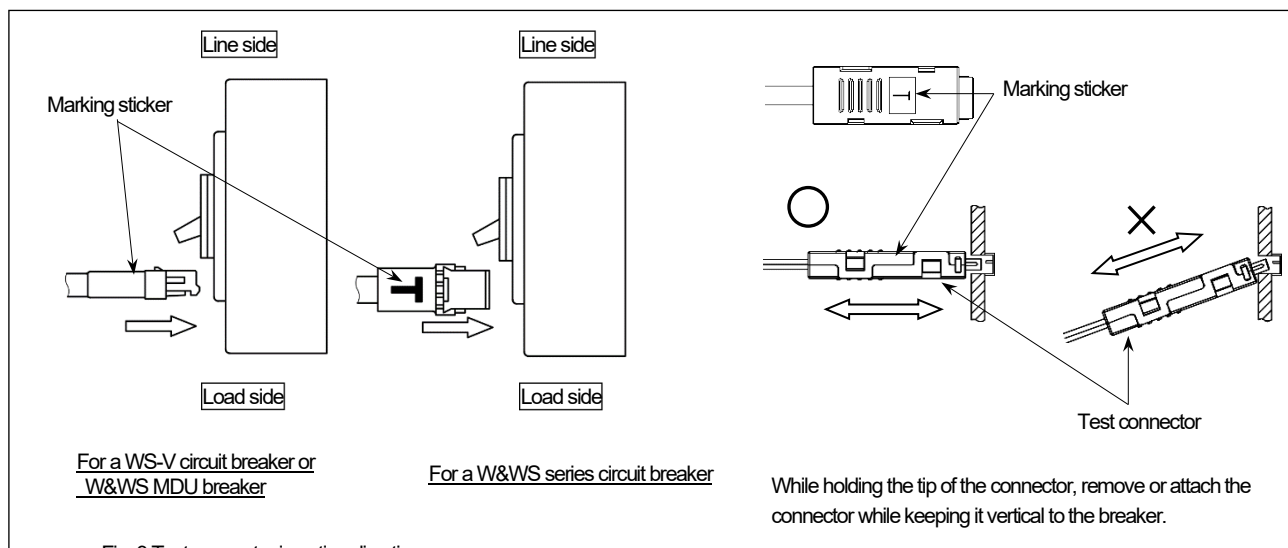

Fig. 3 Test connector insertion direction
Insert the test connector with the marking sticker facing the line side or right side of the circuit breaker. (Fig. 3)
(1) Common precautions
- Do not slant the connector when attaching or removing the test connector to/from a breaker. (Fig. 3)